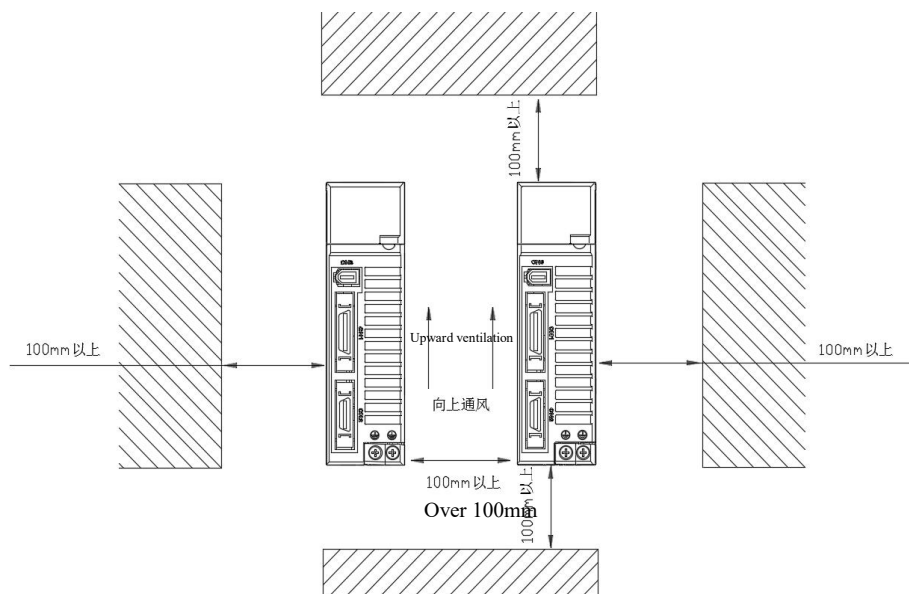

Fig.1.3 Installation orientation map
1. Pay attention to the installation direction (see Fig.1.3).
2. Pay attention to the installation spacing (see Fig. 1.3).